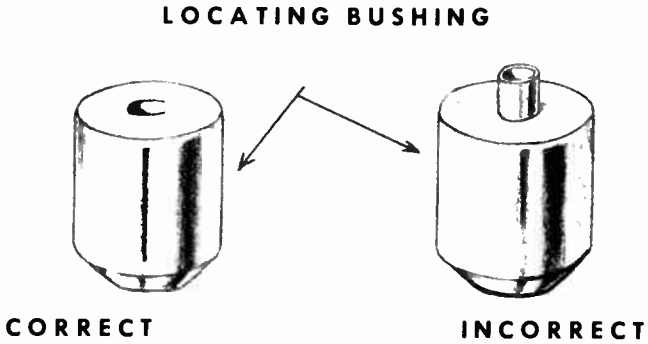

Figure Z8.
5. **Erratic Landing Of Needle:** Should the needle set down irrationally, check following: (a) bad bushing or misplaced bushings; (b) lift up tone arm and remove lift pin; (c) check bushings as illustrated in figure Z8; (d) replace lift pin.